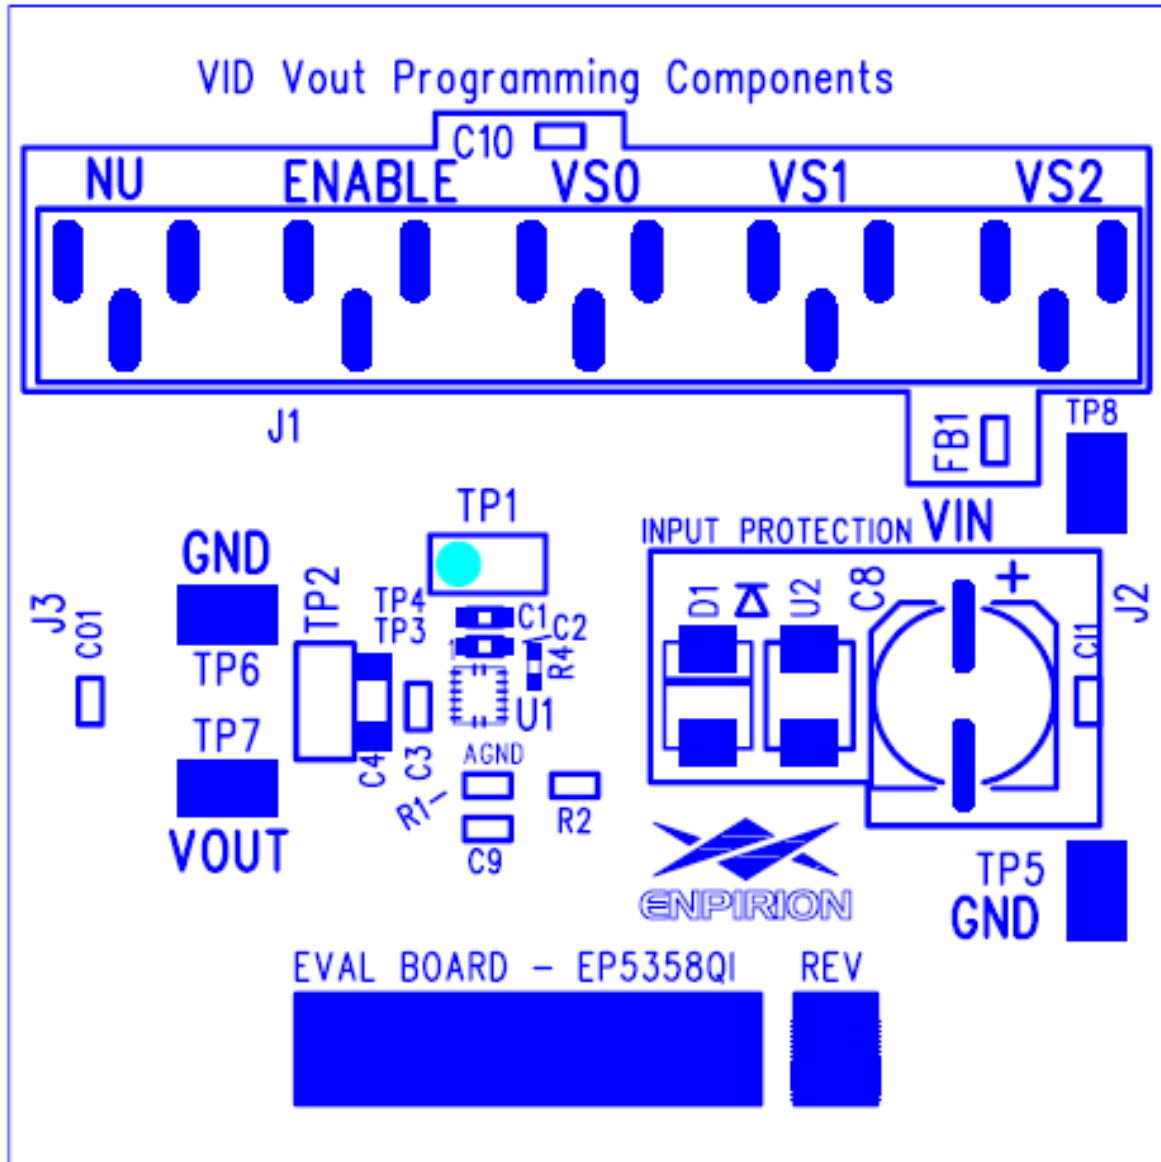

Figure 1. Evaluation Board silk screen.
This application note describes how to test the EP5358xUI (EP5358LUI, EP5358HUI) converters using Altera's Enpirion 2.5mmx2.25mm Module EVAL BOARD shown in Fig. 1. In addition to this document you will also need the device datasheet for a thorough evaluation of the power converter module.
STEP 2: Connect a power supply to the input test points, TP8 (VIN) and TP5 (GND) as indicated in Figure 1. The same test points can also be used to measure the input voltage.
STEP 4: Connect the load to the output connectors TP7 (VOUT) and TP6 (GND), as indicated in Figure 1. The same test points are also used to measure the DC output voltage.